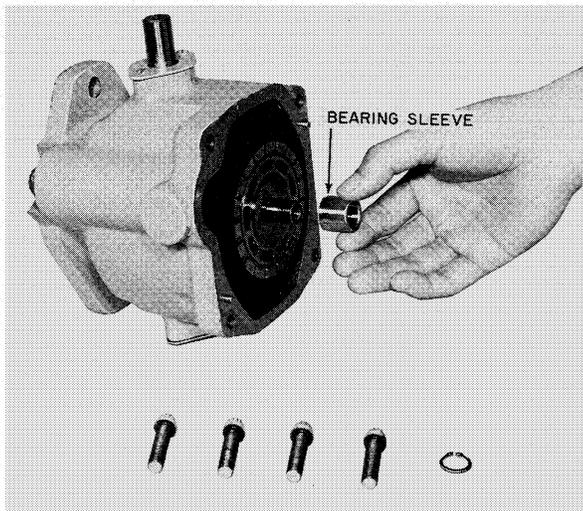

FIGURE 16
6. Next remove bearing sleeve. See Figure 16.